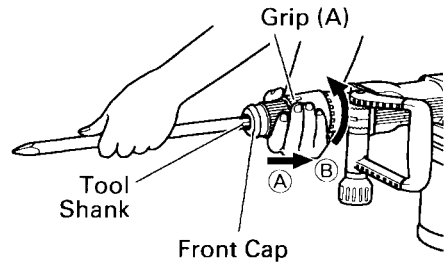
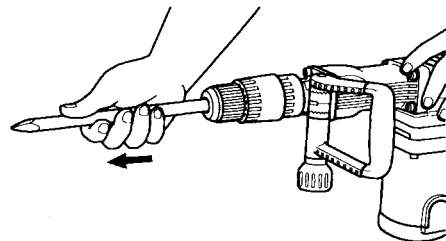

Fig. 2
Fig. 3
- (1) Clean the shank portion of the tool.
- (2) As shown in Fig. 2, pull grip (A) in the direction of (A), and insert the tool into a hole of the front cap while turning in the direction of (B).
- (3) Adjust the groove position while turning the tool, and furthermore insert it until it hits the end of the hole.
- (4) Return grip (A) to its original position, pull the tool to make sure it is locked completely. (Fig. 3)
As shown in Fig. 2, pull grip (A), and pull out the tool while furthermore turned in the direction of (B).